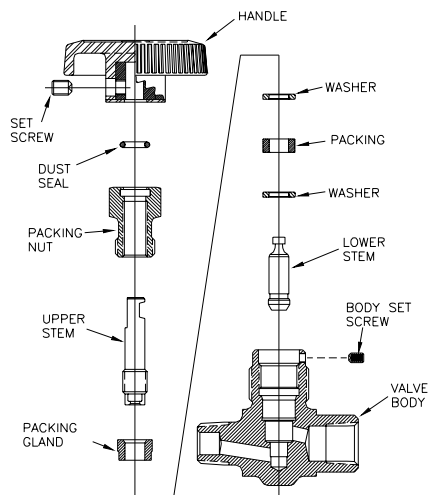

Figure 4: NP6 Needle Valve
- C) **Grafoil Stem Packing** (optional): Refer to Figure 4. Stack the four packing components on the Lower Stem (either "K" or "R") in the following order, with the first item being placed on the landing at the end of the stem. Then proceed to Step 7.